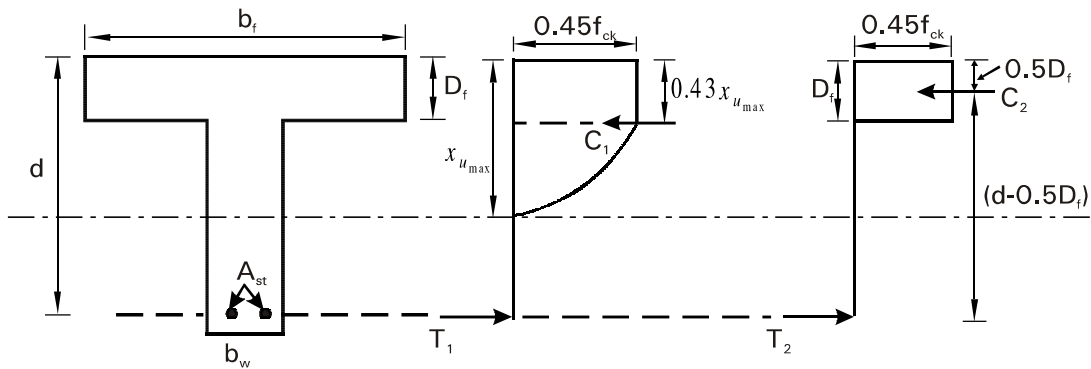

Fig. 2.5 : Stress block parameters (Flanged section)
- The stress distribution for various values of x_u is as shown in fig. 2.5